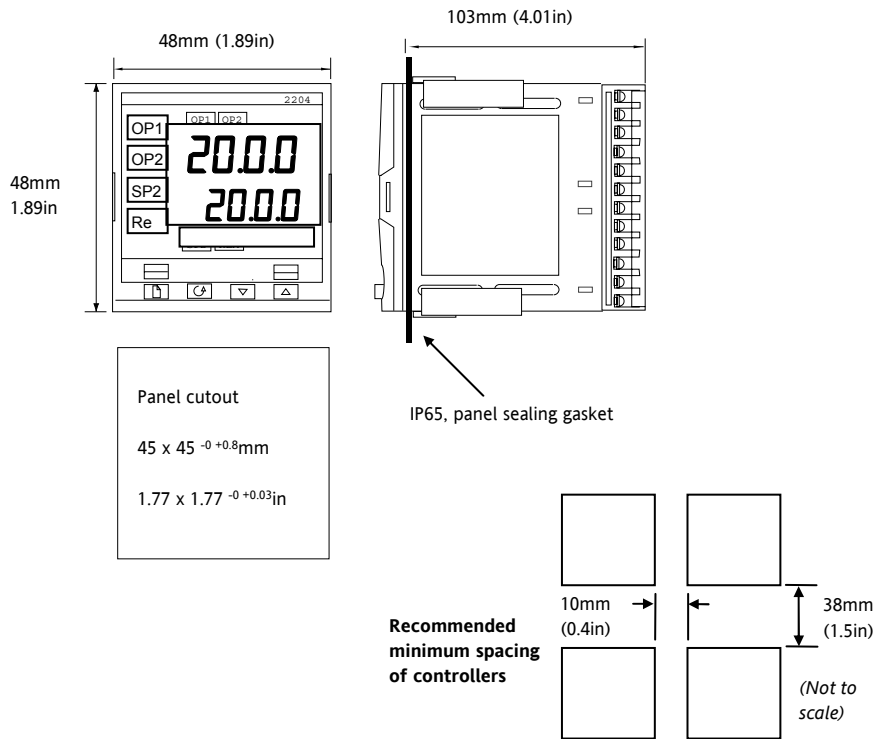

Figure 2-2: Outline dimensions Model 2216e controller
1. Cut the panel to the relevant hole size shown in Figure 2-2.